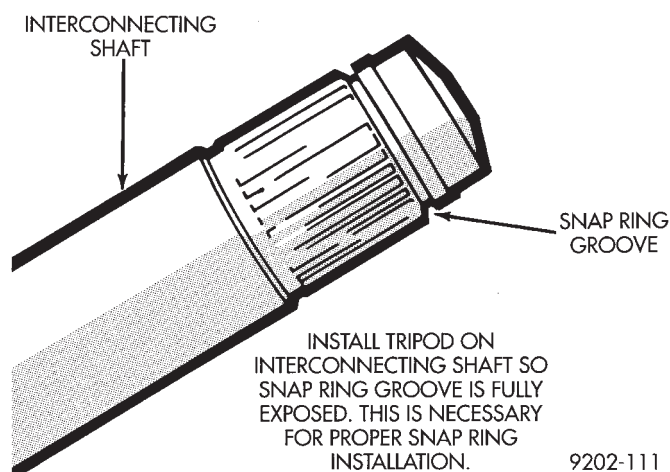

Fig. 17 Interconnecting Shaft Snap Ring Groove
(1) Fasten the (new) boot to the interconnecting shaft. See Boots Install.
(2) Install the tripod assembly onto the interconnecting shaft until it is past the snap ring groove on the shaft (Fig. 17). If required the tripod assembly can be tapped onto the interconnecting shaft using a brass drift, on the body of the tripod assembly (Fig. 4). Do not hit the outer tripod assembly bearings in an attempt to install tripod on interconnecting shaft.
(3) Install the tripod assembly onto the interconnecting shaft until it is past the outer snap ring groove on the shaft (Fig. 17). If required the tripod assembly can be tapped onto the interconnecting shaft using a brass drift, on the body of the tripod assembly (Fig. 4). Do not hit the outer tripod assembly bearings in an attempt to install tripod on interconnecting shaft.